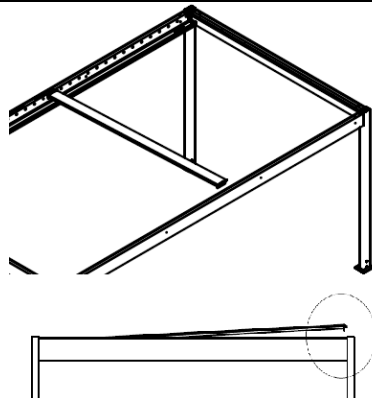

Figure 47
6. Position the drive blade over the beam and insert the side with the drive shaft into the drive blade hole (fig. 47). Push it all the way in, then lower the opposite end horizontally and insert its shaft into the opposite hole in the beam. Push the entire blade so that the shaft on the opposite side to the drive is fully inside the beam.